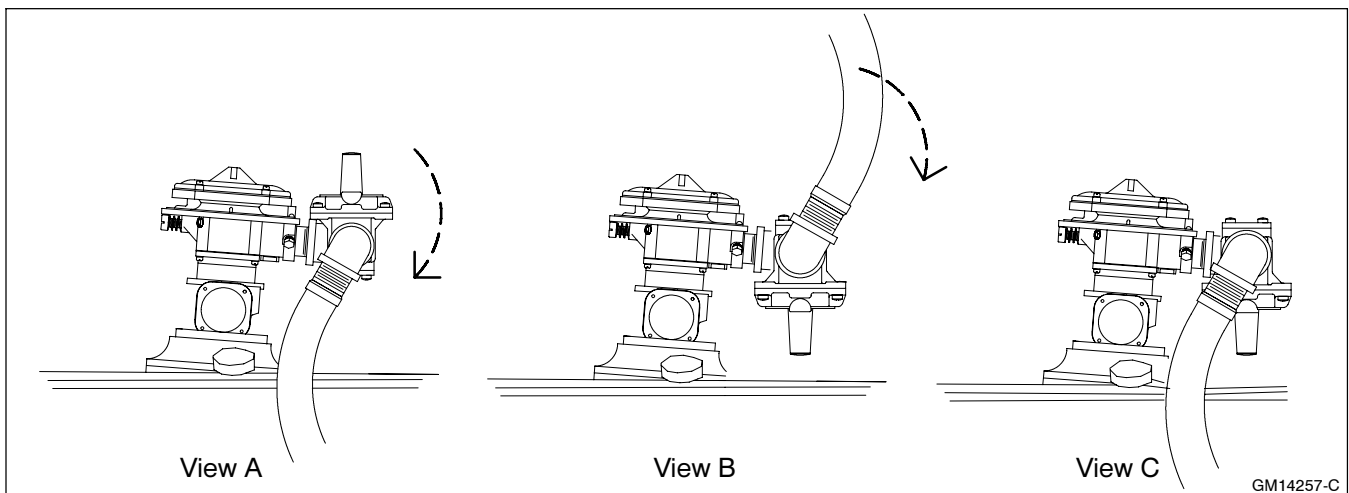

Figure 7-21 Fuel Regulator and Fuel Line Rotation Views for Natural Gas to LP Gas Vapor Conversion
- Rotate the *fuel line elbow* an additional 180° CW. See Figure 7-21, View C.
- See Figure 7-21, View A for natural gas configuration.
- Rotate the *fuel regulator and fuel line* 180° clockwise (CW). See Figure 7-21, View B.